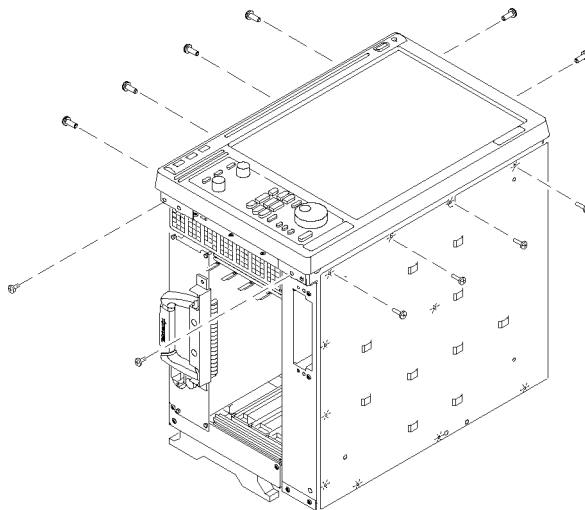

Figure 3: Remove the front-panel trim screws
8. Remove the 12 T-15 screws from the front-panel trim. (See Figure 3.)